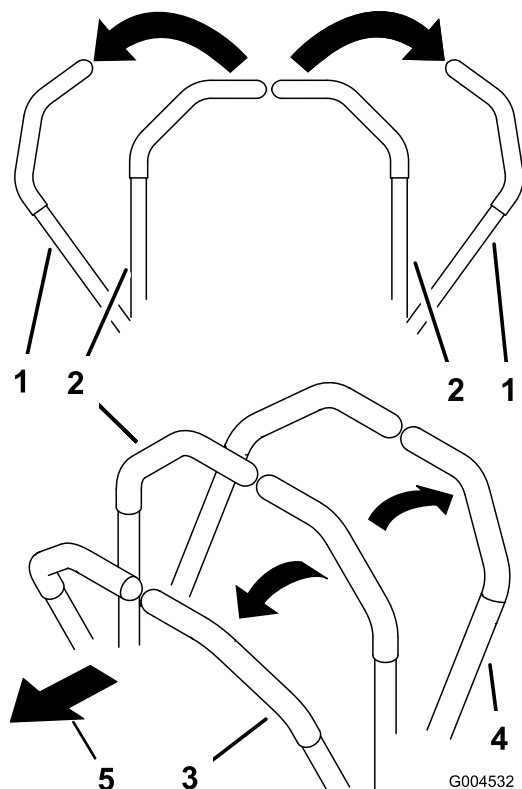

Figure 17
1. Move the motion control levers (Figure 17) out to the neutral locked position.
- To go straight forward, slowly push the motion control levers forward (Figure 17).
- To go Straight backward, slowly pull the motion control levers rearward (Figure 17).
- To turn, slow the machine by pulling back on both levers and then push forward on the lever on the opposite side from which you want to turn (Figure 17).